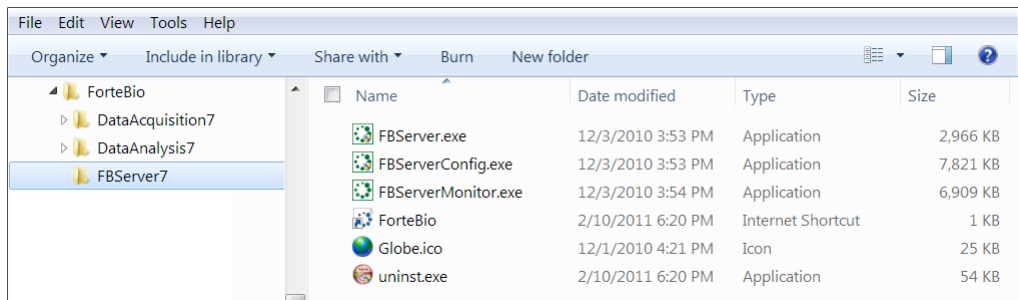

Figure B-50: ForteBio GxP Server Module Installed on a Network Location
- **If the Pall ForteBio GxP Server module is installed on a network location**—Double-click the **FBServerConfig.exe** file in the FBServer folder from the installed location (Figure B-50).